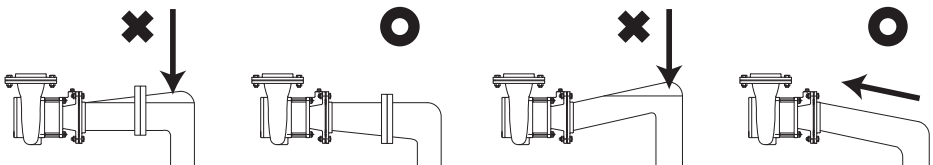

Fig. 2
3. The connection between the suction line and pump must be airtight, and the suction pipe must be positioned so it has an upward slope to the pump (thus avoiding the formation of air pockets). (See Fig 2)